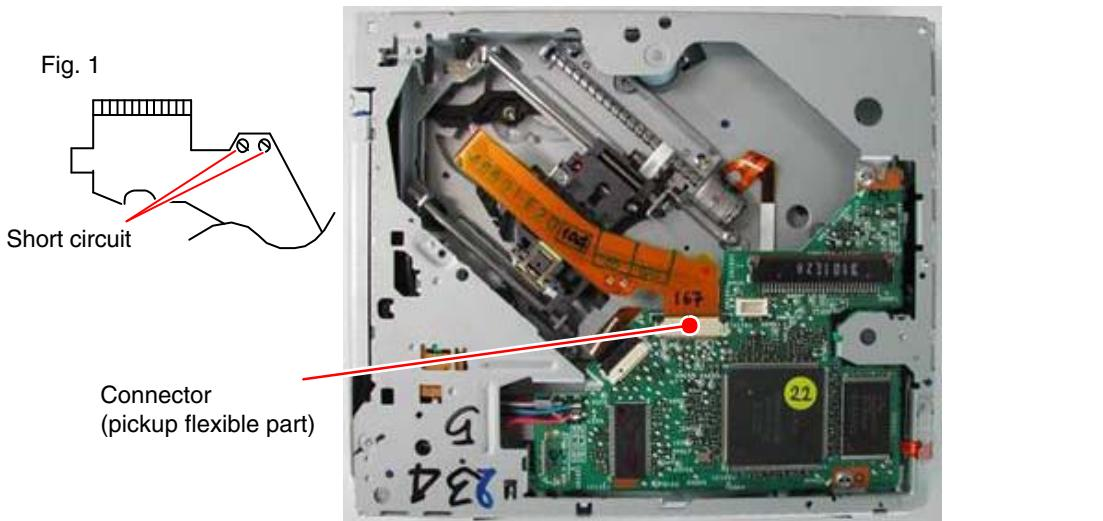

Fig. 2
4. Remove the connector of the pickup flexible part. (Fig. 2)